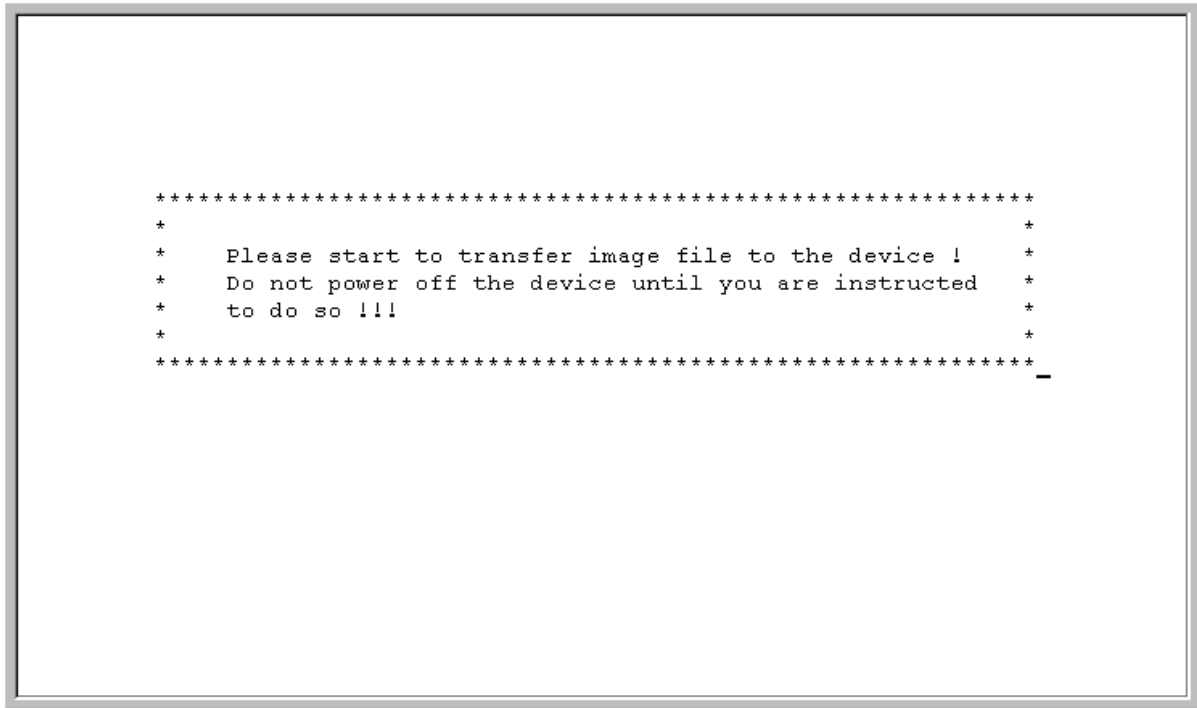

Figure 16: Software Update Transfer
4. You will see the panel displayed in Figure 16. Select Transfer on the HyperTerminal menu bar at the top of the screen.